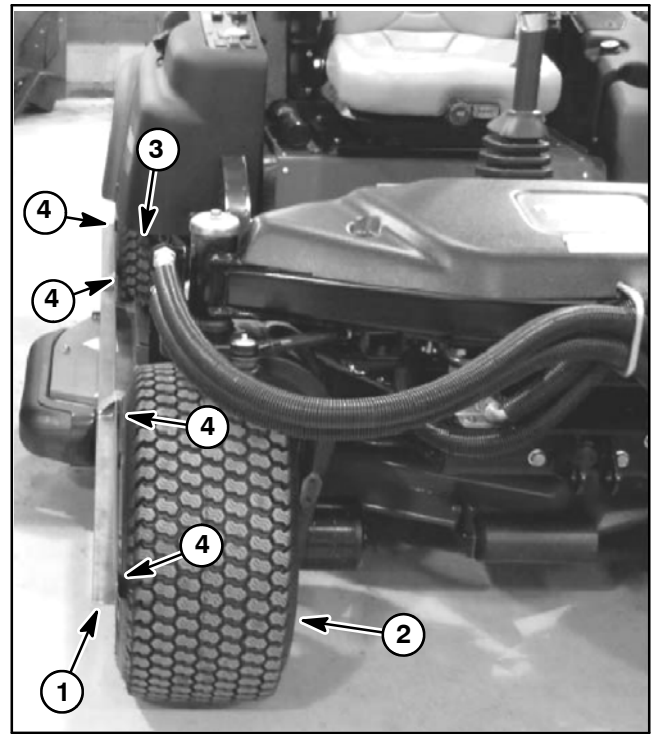

Figure 8
9. With both alignment tools installed, place a rigid straight edge (e.g. angle iron, metal pipe) that is at least 80 inches (2 meters) long against the sides of the front and rear tires on one side of the machine (Fig. 8). The straight edge should contact the tires at four (4) points if the wheel alignment is correct.